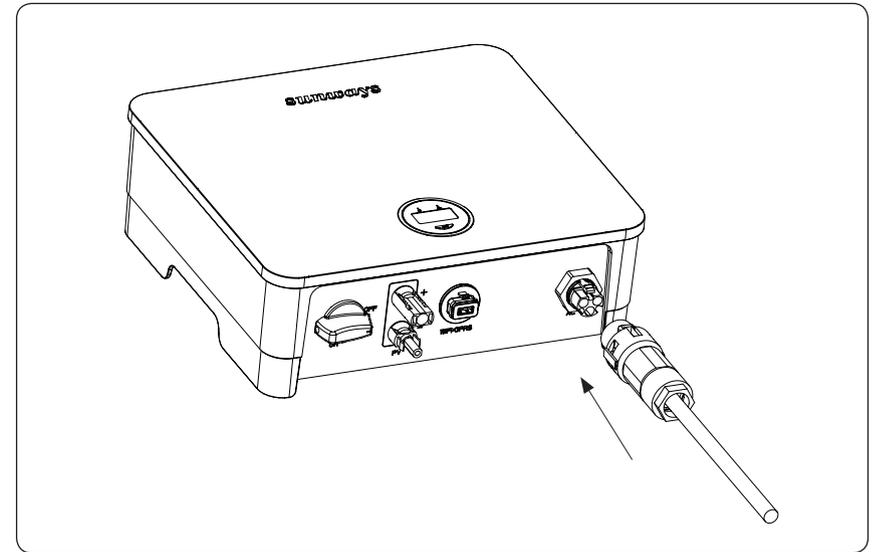

Figure 4-17 Connect the AC connector
5) Connect the AC connector to the inverter AC terminal, and the slight click represents the connection is in the place. As shown in figure 4-17: